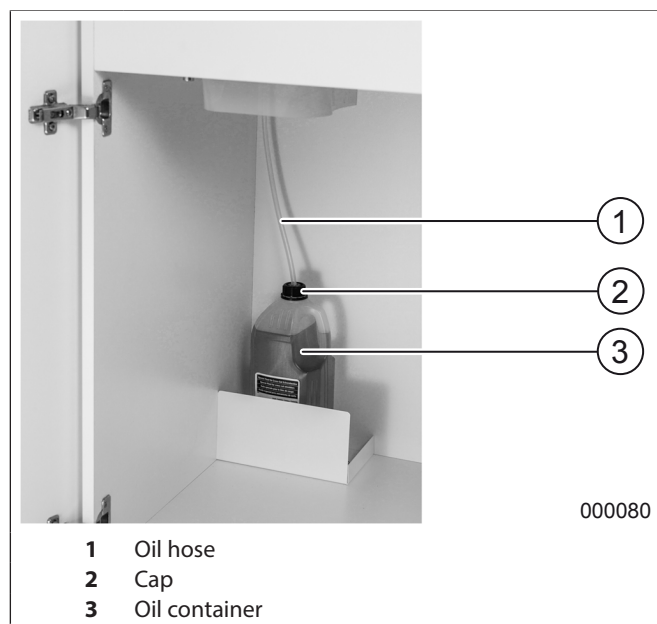

fig. 6 Oil container
If the control display  (fig. 3/8) flashes, this means that the oil container (fig. 6/3) is empty and must be replaced with a full container. The motor switches off.
2. Change the oil container (fig. 6/3). To do this, unscrew the cap (fig. 6/2).